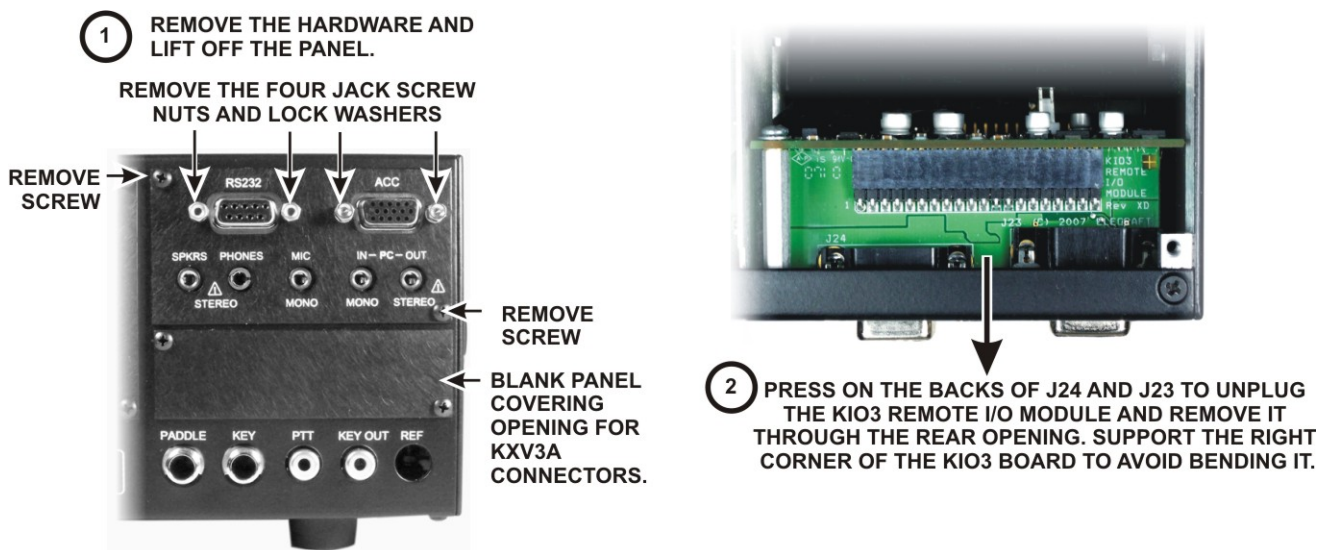

Figure 4. Removing the Remote I/O Module.
- Remove the Remote I/O module from the KIO3 Board at the rear of the K3 as shown in Figure 4.
- Remove the blank panel covering the space for the KXV3A module (see Figure 4). This panel will not be replaced.